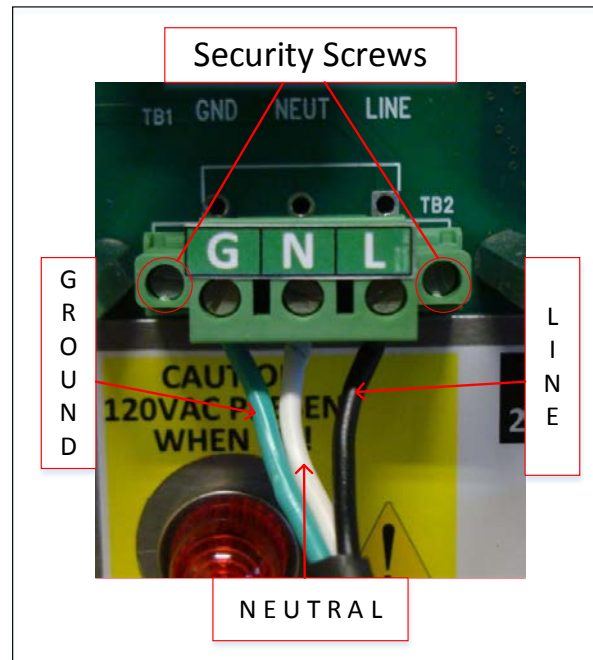

Figure 29. Line - Neutral - Ground Connections
3. Remove the 3-pin Phoenix block from the power module by loosening the two security screws on the sides of the connector. Secure the Line (black), Neutral (white) and Ground (green) wires to the appropriate terminal screws. (See Figure 29.)